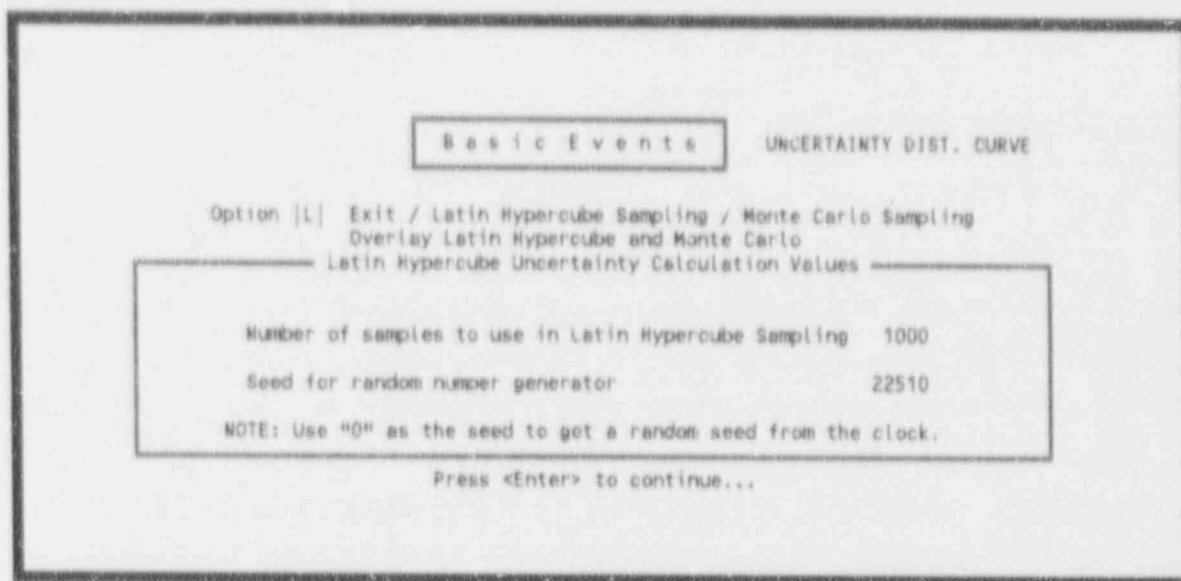
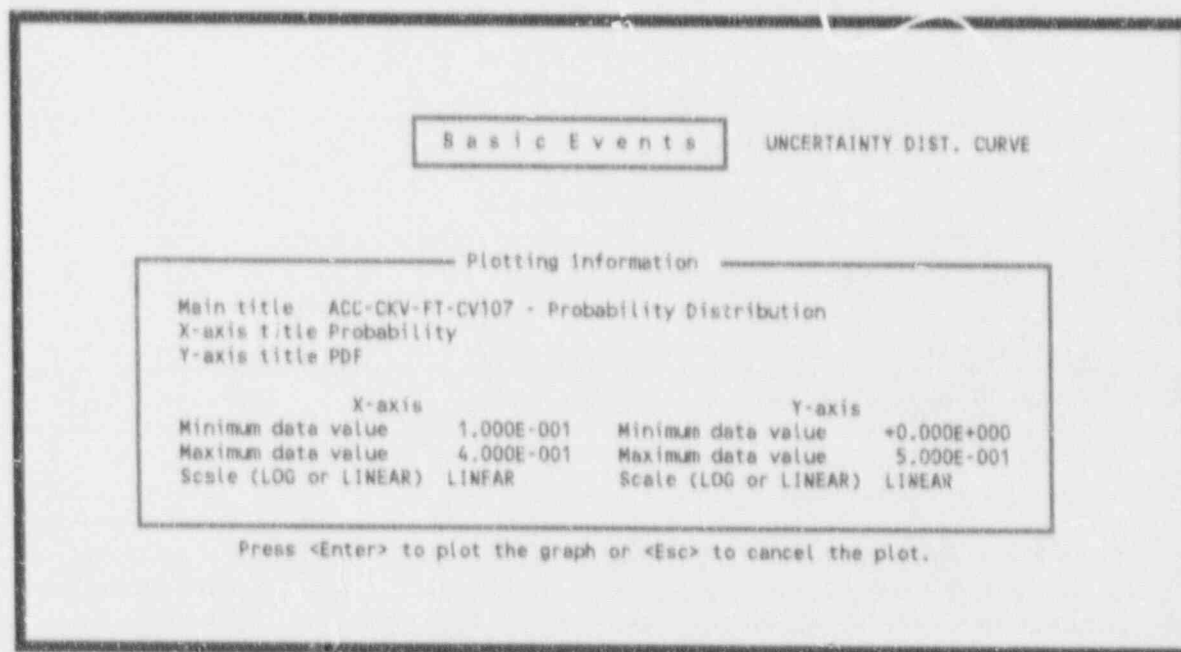

Figure 127. Latin hypercube sampling values.
Figure 128. Latin hypercube plotting information.
**5.5.2.1 Latin Hypercube Sampling.** This option plots an uncertainty distribution curve for a selected basic event using Latin Hypercube sampling. To invoke this option, type an <L> in the option field, highlight the basic event to plot and press <Enter>. Figure 127 will be displayed. This screen prompts you to enter the number of samples to be generated during simulation and the initial value of the seed for the random number generator. A default seed value for the random seed may be provided. You may use this value or enter a new value for the seed. To obtain a random seed from the system clock, enter a zero in this field. There will also be a default value in the field for the number of samples. You may use this value or enter another value. When values have been entered, press <Enter>. The samples will be calculated and when complete, Figure 128 will be displayed. The screen shows the plot information that will be used to plot the uncertainty distribution curve. You can change any of the values